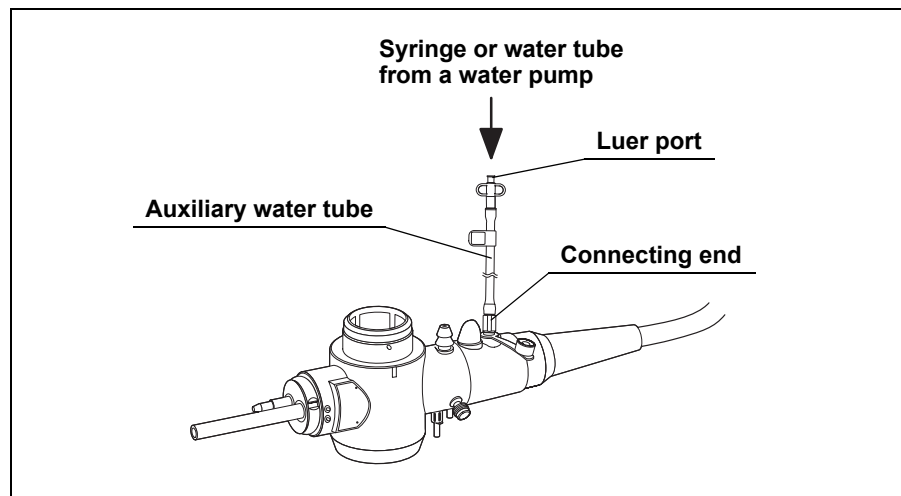

Figure 3.26
1. Attach a syringe containing sterile water or the water tube from a water pump to the luer port of the auxiliary water tube (see Figure 3.26). Feed water and confirm that water is emitted from the auxiliary water channel at the distal end of the insertion section.